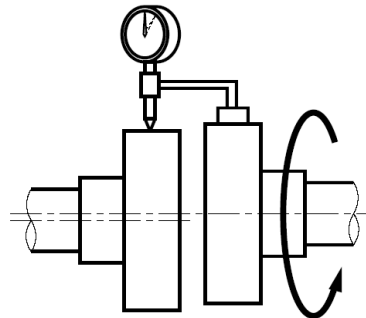

Fig. 2
2.) Radial alignment: Check using a levelling instrument, fig. 2 the difference should be reduced to an absolute minimum. Refer to maximum permissible value (Δr) in table 1.